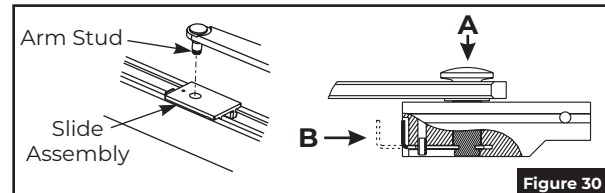

Figure 30
- Insert stud on arm into slider in track by pressing clip on backside of slider onto stud. (Figure 30)